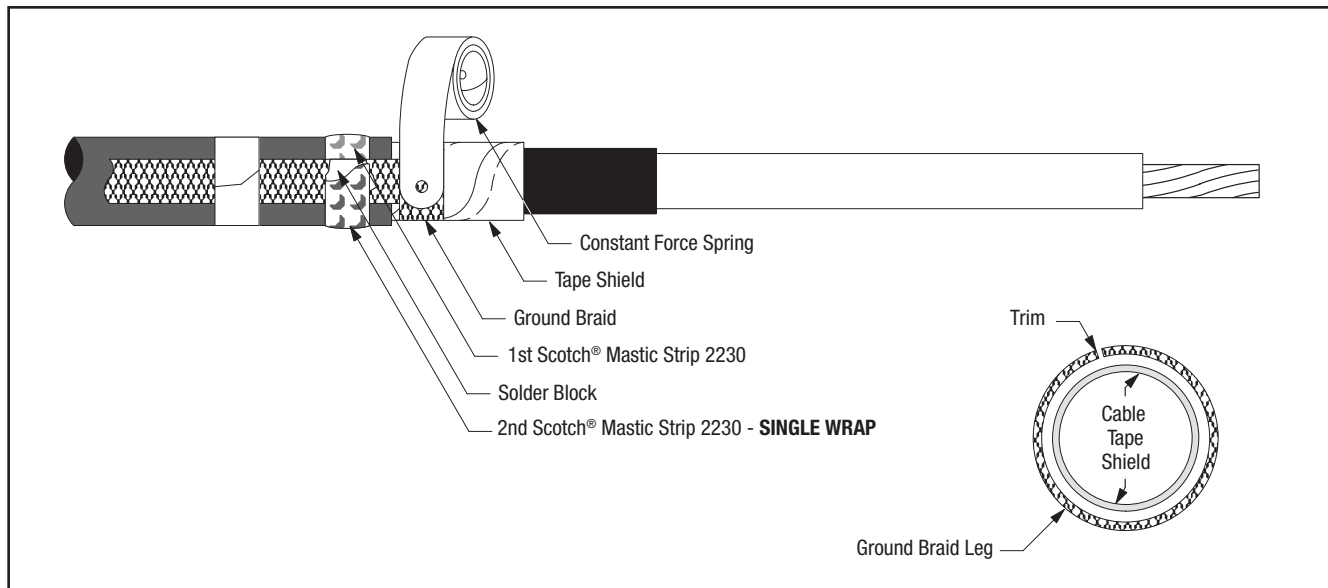

Figure 4
- 3.3 Wrap ground braid around cable tape shield one complete wrap, trim excess at approximately a 45 degree angle, and line up with the pre-bent 45 degree angle already on the ground braid, to prevent overlap. Secure in place with constant force spring. Wrap spring in same direction as ground braid (Figure 4). Cinch (tighten) the spring after wrapping the final winding.
- 3.4 Select second Scotch® Mastic Strip 2230 from kit and remove white release liners. Apply a second **SINGLE WRAP** of mastic over solder block on ground braid and previously applied mastic (Figure 4). Cut off excess.